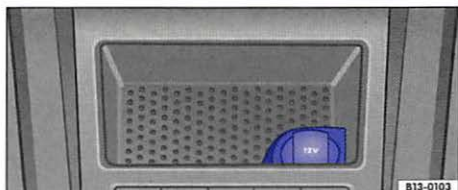

Fig. 102 Front center console: 12 Volt socket in the storage compartment.
- In the storage compartment in the front center console ⇒ fig. 102.